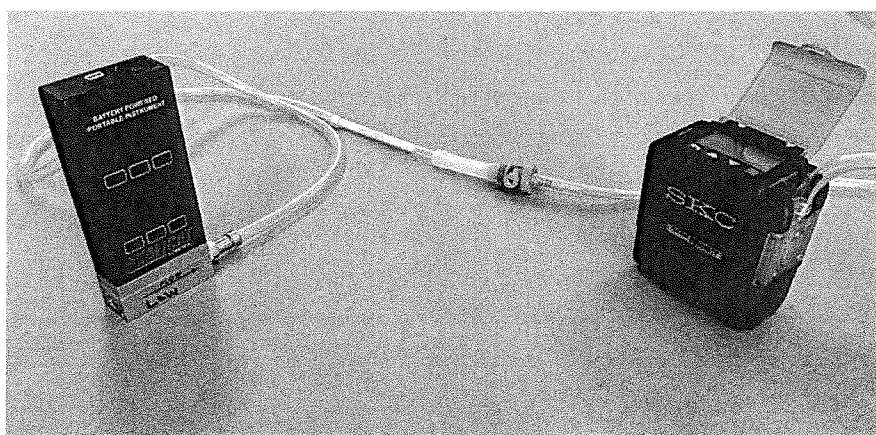

Figure 29. Calibration Set up (50.0 mL/min)
4.3.1.4 Connect the other end of the sorbent tube to ALICAT flowmeter using calibration tubing (Figure 29).
- 4.3.5.2 Connect the other end of the sorbent tube to ALICAT flowmeter using calibration tubing (Figure 29).